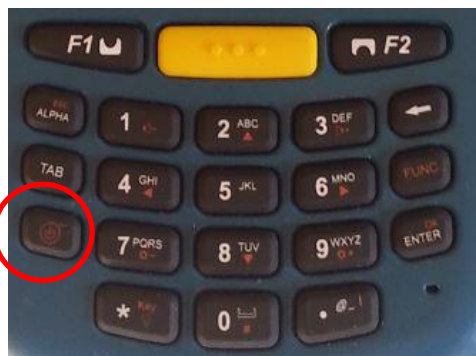
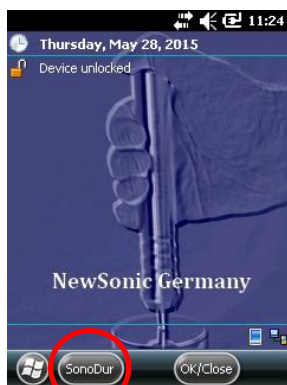

Figure 5.1
Figure 5.2
The device is turned on/off via the power button (bottom left most position of the keypad, see Figure 5.1). To turn on the device, press and hold the key (3-4 sec) until you will feel a slight vibration and the display shows the boot logo, release the key. After approx. 20 sec. the boot sequence is finished and the start screen is shown, see Figure 5.2.